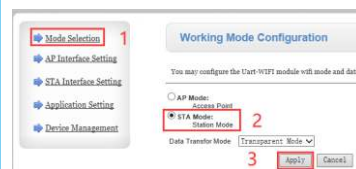

Figure10
1. Select STA mode on Mode Selection, as shown in Figure 10: